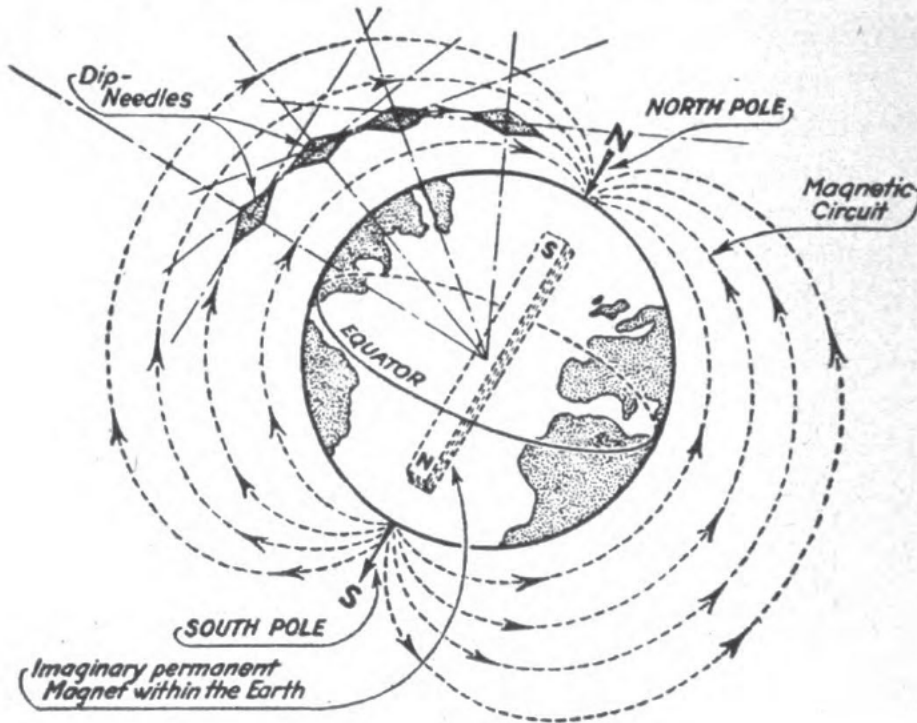

Figure 95.—Magnetic inclination.
A study of figure 95 shows you that, at the magnetic equator, the ends of the compass are equidistant from the magnetic poles of the earth. The attraction of the (N) pole of the compass
compass for the (N) magnetic pole of the earth. Also in figure 95, you can note the approximate position of a dip needle at various other points